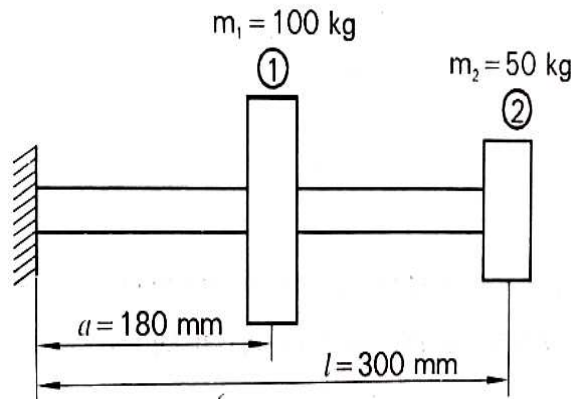

Fig. 9b
- b. Find the lowest natural frequency of vibration for the system shown in the Fig. 9b by Rayleigh's method.  $E = 1.96 \times 10^{11} \text{ N/m}^2$ ,  $I = 4 \times 10^{-7} \text{ m}^4$ . 10